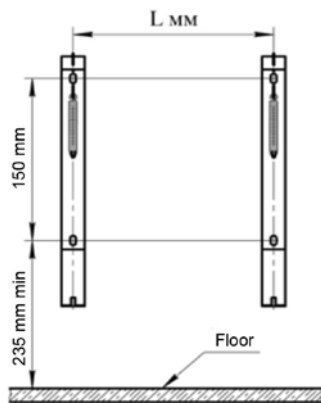

Fig. 1
- execute on a wall a marking for fixing (see fig. 1, table 1);